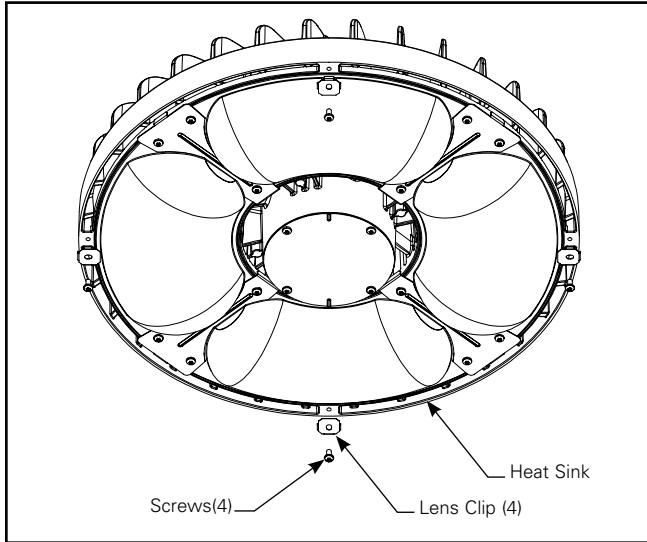

Figure 1.
1. Remove the **4** screws and lens clips from heat sink as shown in Figure 1. **Do not discard.**